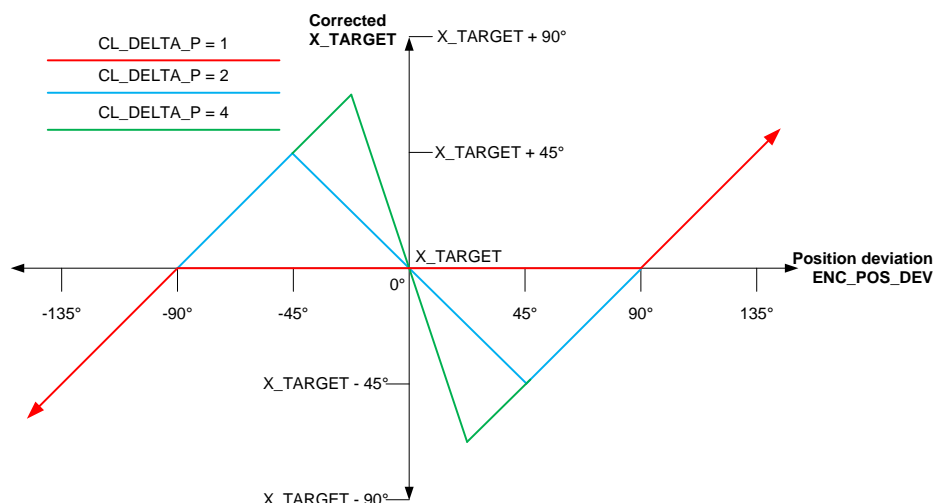

Figure 3.2 Calculation of the corrected target position with `CL_BETA = 255 (90°)` and 256 microsteps per full step
2. The closed loop proportional term **CL\_DELTA\_P 0x5C** defines the response to a position mismatch as long as the maximum commutation angle is not reached. The higher this value the stronger the response to position mismatches, but also the higher the possibility for oscillations. Higher values means also that the maximum commutation angle `CL_BETA` will be reached with a smaller position mismatch (see Figure 3.2). The representation of `CL_DELTA_P` consists of 8 digits and 16 decimal places, e.g. `CL_DELTA_P = 0x018000 = 1.5` will result in a commutation angle which is 1.5 multiplied to the current position mismatch. In the following, three different setups are illustrated in a table to clarify the differences of various settings (microsteps per fullstep = 256):